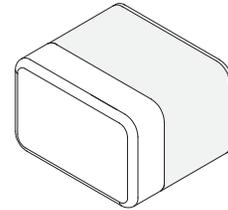

**Fig 28**
**28.** Attach the **Handle (#15)** to the **Door Glass (#03)**. Attach the **Anti-Water Strips (#13)** to the edge of the **Stationary Panel Glass (#02)** and to the **Door Glass (#03)**. Attach the **Bumper Seal Strip (#14)** to the handle side of the **Door Glass (#03)**. (**Fig 28**)